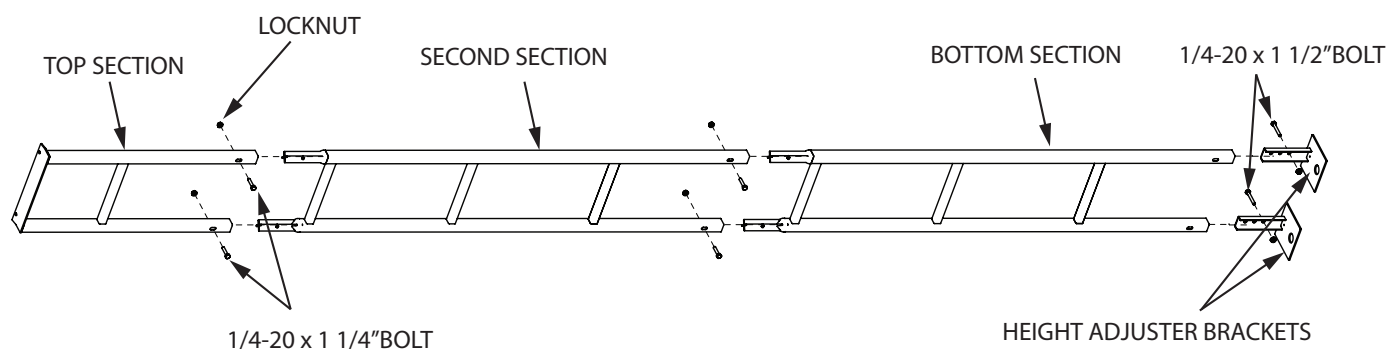

FIGURE 12
19. Assemble the (3) ladder sections on the ground in the following order: bottom section (AL1 ladder); second section (AL3 ladder); top section (TWR21 ladder). **SEE FIGURE 12.**
20. With all ladder sections assembled together on ground, secure all sections together using (4) provided 1/4-20 x 1-1/4" bolts and locknuts. **SEE FIGURE 12.**
21. Attach the (2) height adjuster feet (TWR41) to the bottom ladder section using (2) provided 1/4-20 x 1-1/2" bolts and lock nuts. **SEE FIGURE 12.**